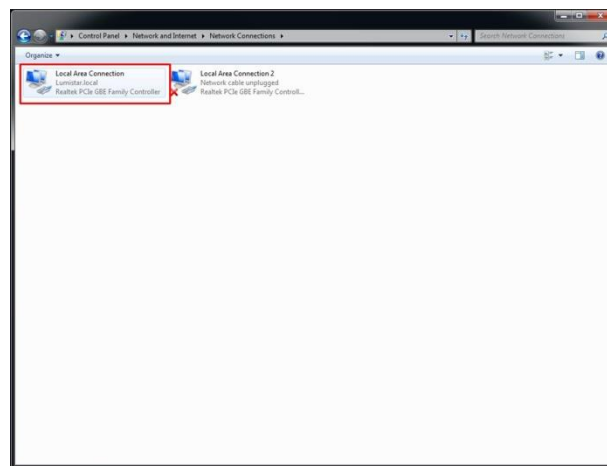

Figure 3-5 Windows Network Connections Page
Step 5: The Network Connections window shows the available connections the target host can use. Right-click on the local area connection attached to the LS-18-M and select "Properties". See Figure 3-5